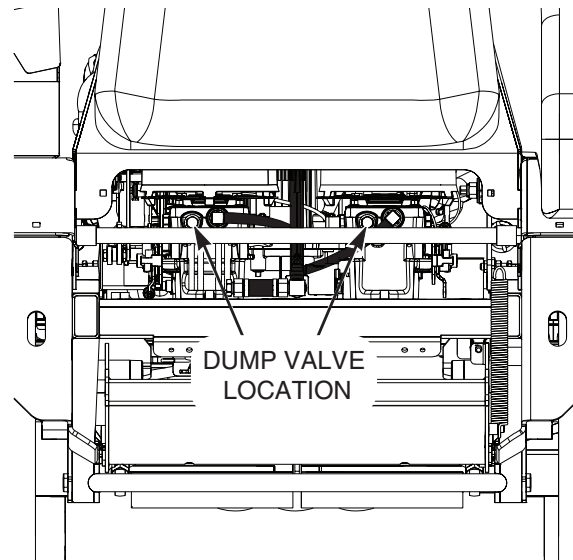

Figure 4-3. Dump Valve Controls
15. **Dump Valve Controls (Figure 4-3).** Located on the hydraulic pumps, used to "free-wheel" the mower. Rotating clockwise until they stop allows the unit to move under hydraulic power. The levers must be in this position and torqued to 7-10 lb-ft during operation of the mower. Rotating counter-clockwise allows the mower to be moved by hand (free-wheeling). See Figure 4-3.